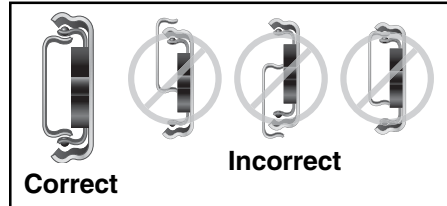

Figure 11
13. Ensure slides of pedestal and drawer are aligned correctly (see Figure 11).